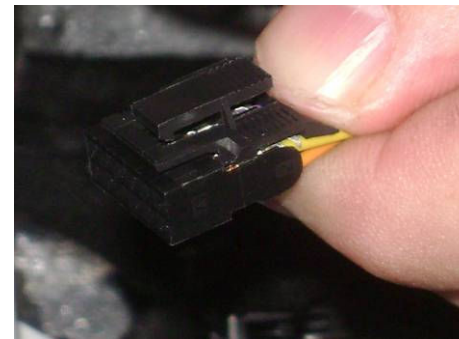

FIGURE 5
11. Attach the DLM connector shell to the connector (see figure 5)